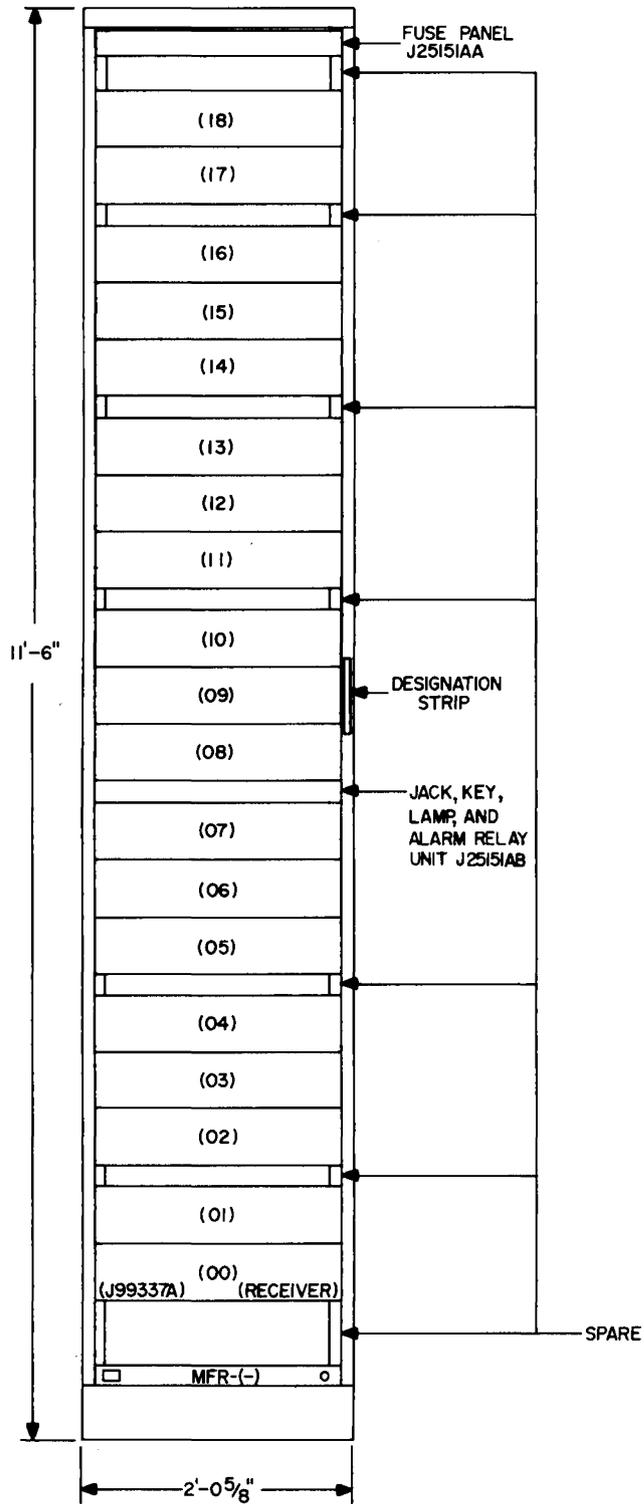

Fig. 1—Multifrequency Pulsing Receiver Frame
*List 1*—Assembly, wiring, and equipment per SD-28064-01, Fig. 1, for one fuse panel unit. (See Note A.)